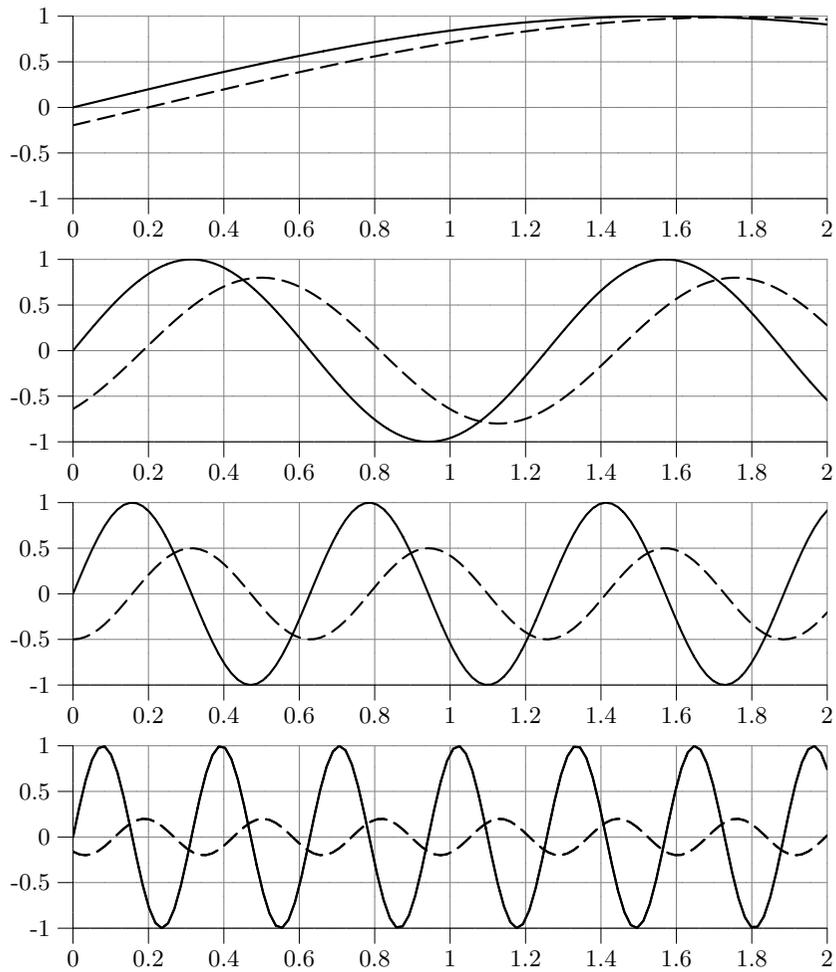

Figure 4.8a. $u(t) = \sin(\omega t)$ (solid) and $y(t)$ (dashed).
- 4.8 A system is described by $Y(s) = G(s)U(s)$. Figure 4.8a shows $u(t) = \sin(\omega t)$ and the corresponding output $y(t)$ (after all transients have faded away) for the frequencies $\omega = 1, 5, 10,$ and 20 rad/s (from top to bottom).